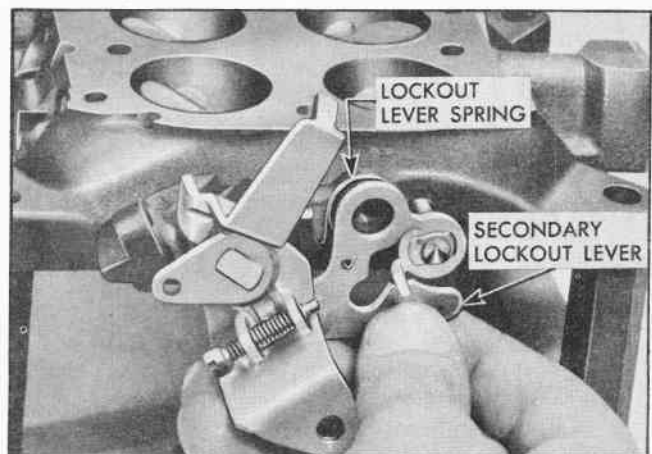

Fig. 21 Positioning Secondary Lockout Lever
- b. Hook secondary lockout lever spring in lockout lever and place lever against boss with spring hooked on casting (Fig. 21)